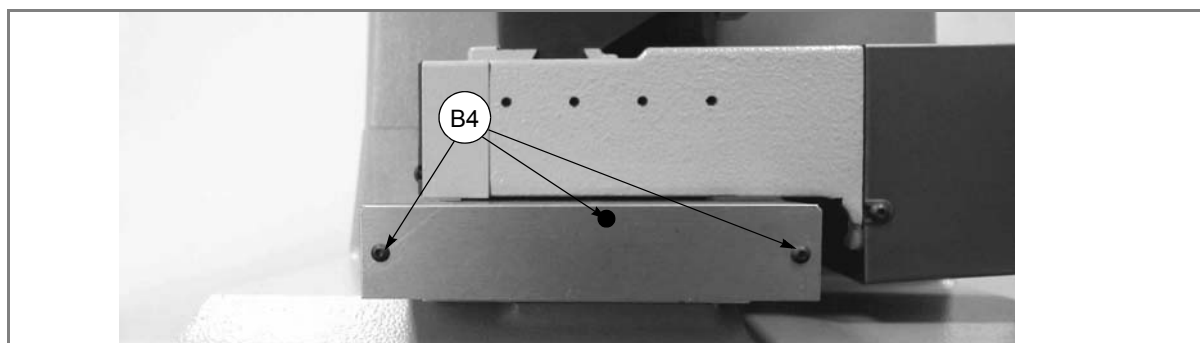

Fig. 79
- 9) loosen the 3 screws (B4) to remove the front cover on the lower carriage (fig. 79).